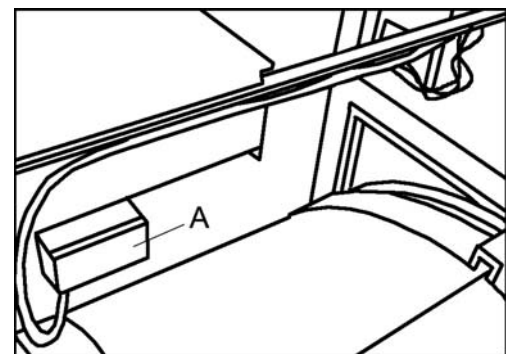

fig. 13
- Open circuit adapter box cover **A**. This box is located on the side of the inverter box (**fig. 13**). Cut a hole in the inlet box protector to the size of the conductor to be used.